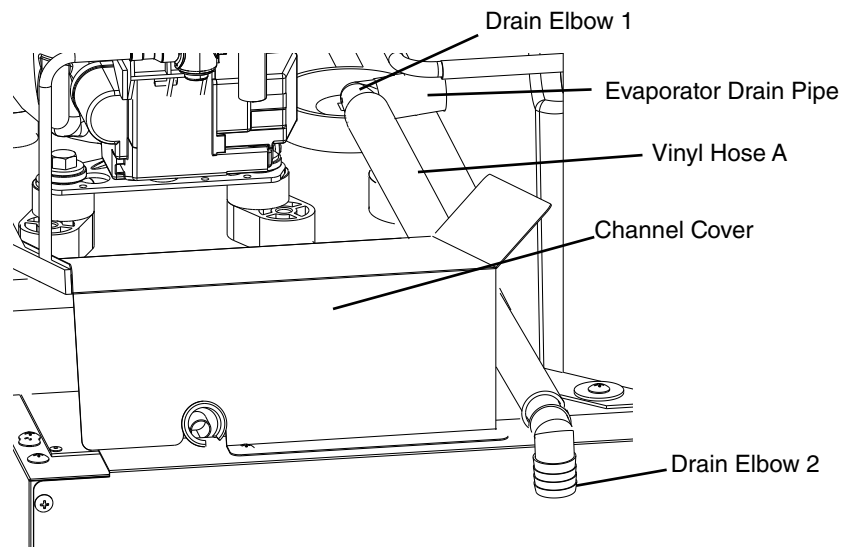

Fig. 4
- 6) Connect one end of vinyl hose A (15-1/8 in. (385 mm)) provided in this kit, to the open end of drain elbow 1 and route it to the back of the appliance under the channel cover. See Fig. 4.
- 7) Connect one end of the 2nd elbow provided in this kit, to the open end of vinyl hose A (15-1/8 in. (385 mm)). See Fig. 4. **NOTICE! Be sure drain elbow 2 is properly positioned on vinyl hose A (15-1/8 in. (385 mm)).**